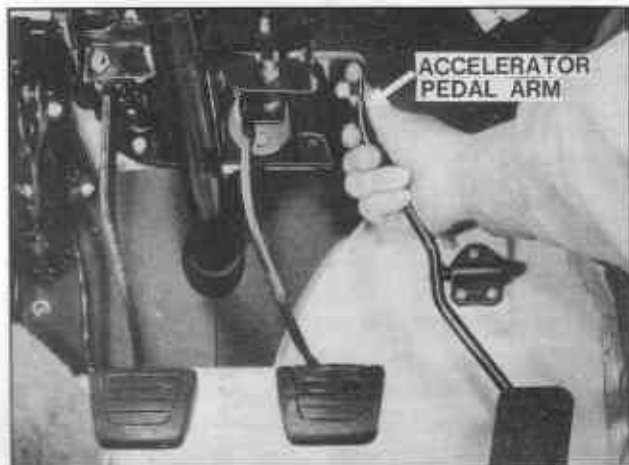

Fig. FE-2 Rod removal
1. Remove accelerator rod from accelerator pedal arm as shown Fig. FE-2.